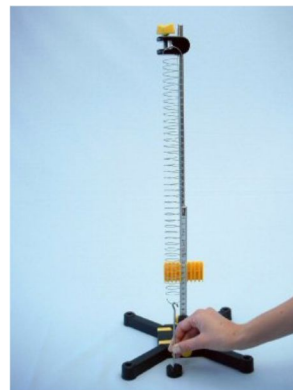

Fig. 10
- Hold the mass against the table top so that it touches the table, then release it again and observe the continued course of its movement (Fig. 10).